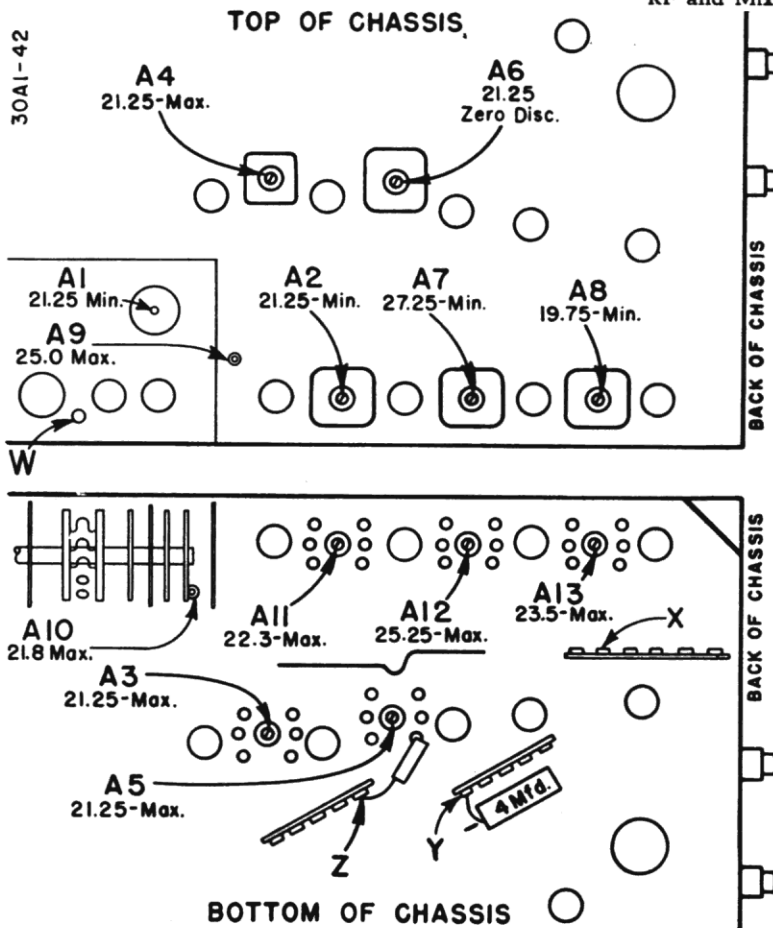

Fig. 3-9. Trimmer Locations (Sets using 94C9-2 Tuner).
- Refer to figure 3-9, 3-10 and 3-11 for alignment adjustment and test point locations.
- See Figure 3-9. Connect VTVM high side to "Z" (ratio detector V203 circuit); common to chassis. Use VTVM 3 volt zero center scale if available.